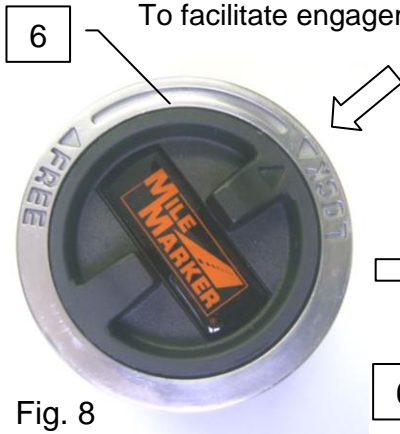
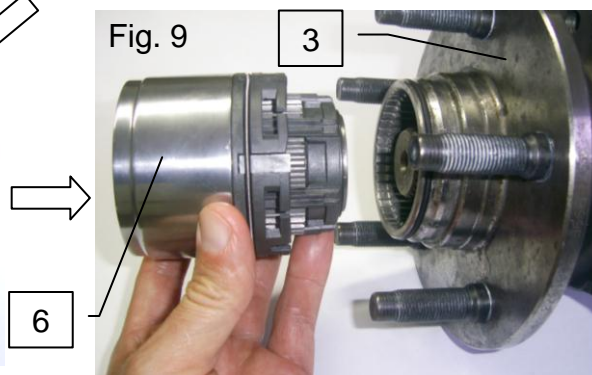
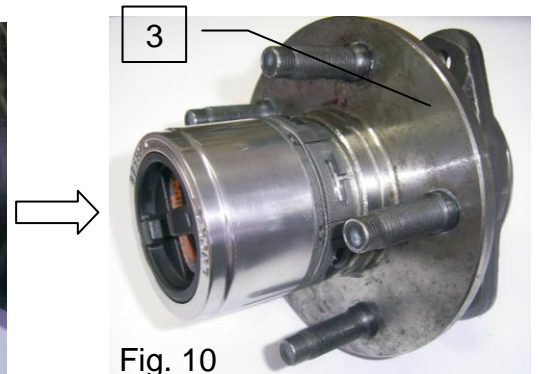

Fig. 8
Fig. 9
Fig. 10
6- With freewheel hub (6) at "LOCK" position [Fig. 8], align and engage wheel hub notched (3) [Fig. 9]. To facilitate engagement, rotate the wheel hub (3) until engagement [Fig. 10].